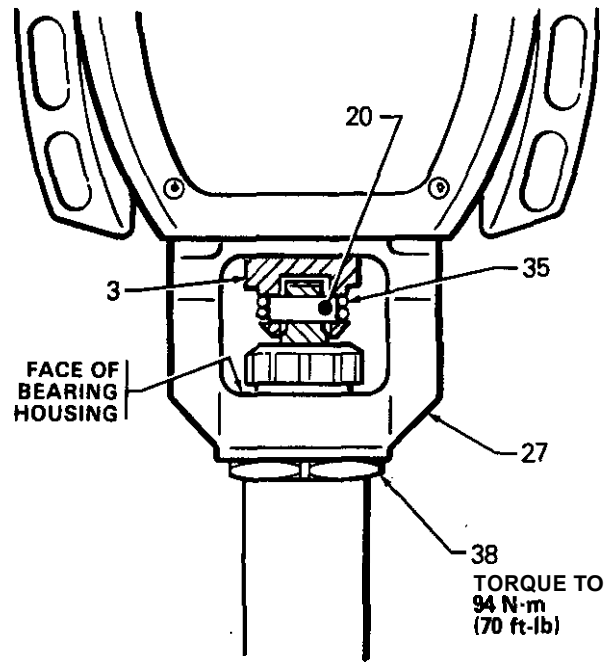

Fig 28
Be sure the retaining spring (35) is firmly in the groove of the connecting rod, all **the** way around, to prevent the pin (20) from working **loose** due to vibration. See Fig 28.